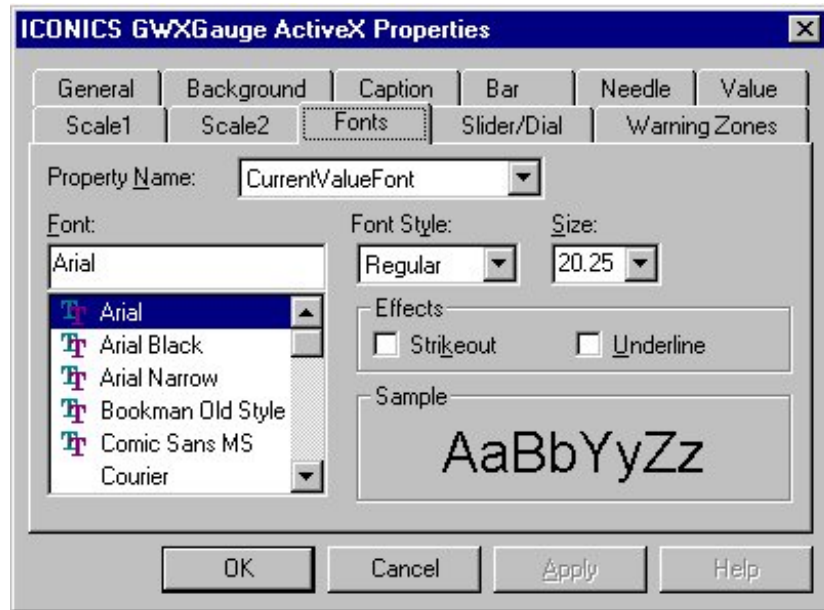

Figure 15-12: GWXGauge ActiveX Properties Dialog Box: Fonts Tab
2. Select the Fonts tab (Figure 15-12).